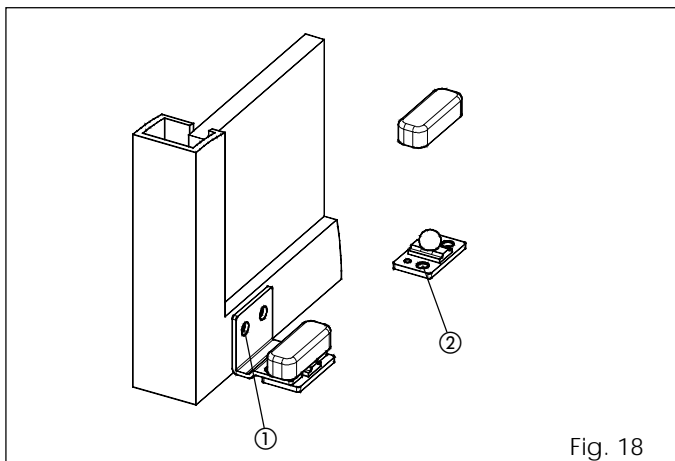

Fig. 18
- Secure the sliding blocks as shown in fig. 18. ref. ①.
- Secure the sliding block directly to the floor, as shown in fig. 18. ref. ②, using adequate expansion plugs and screws.